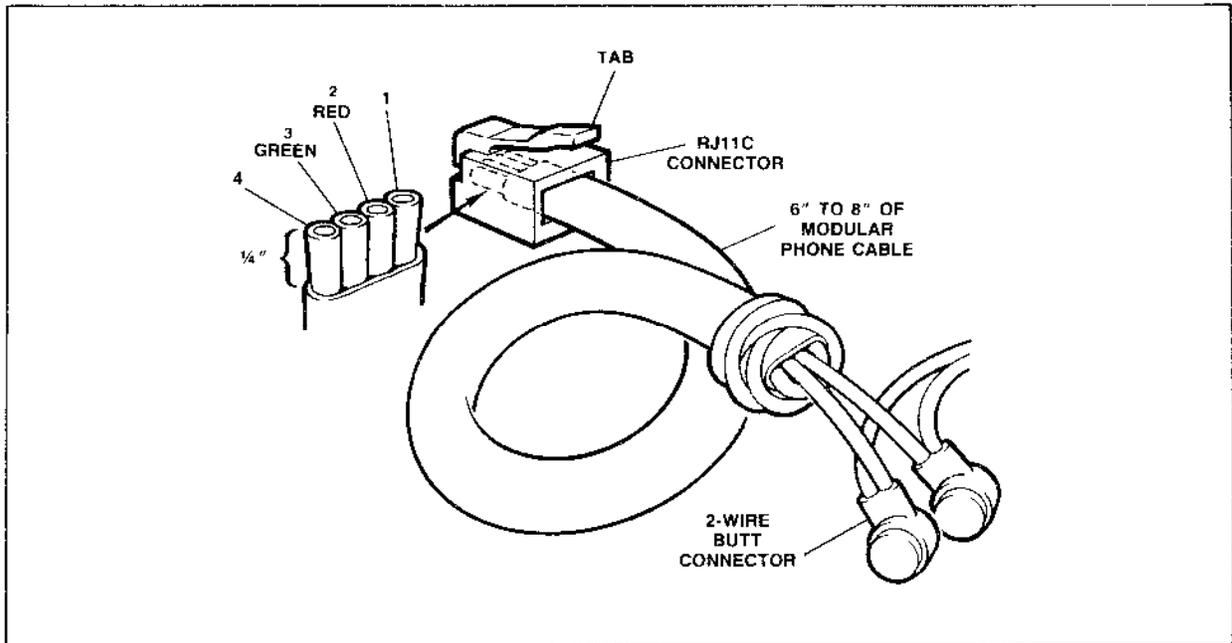

Figure 9. RJ11C Interface
- (1) Refer to Figure 9 for an illustration of a prepared RJ11C interface. Prepare the RJ11C interface as follows:
- (2) Connect the phone cable to the telco interface box as follows: